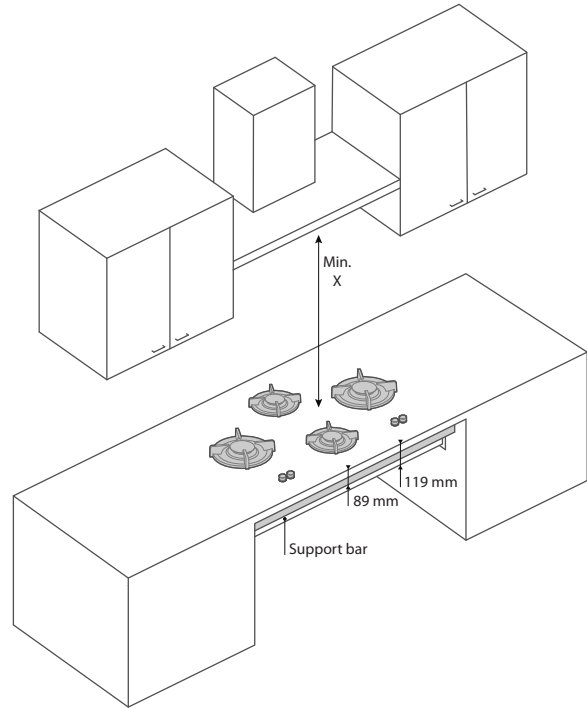

fig. 2
- When the gas hob is combined with a drawer cabinet, always be aware of the measurements of the unit and the support bar. The height of the unit and the support bar is 119 mm (TS) measured from the top of the worktop (fig.2).
- To prevent bending of the worktop the appliance need to be supported by two support bars (fig. 2 and 3).